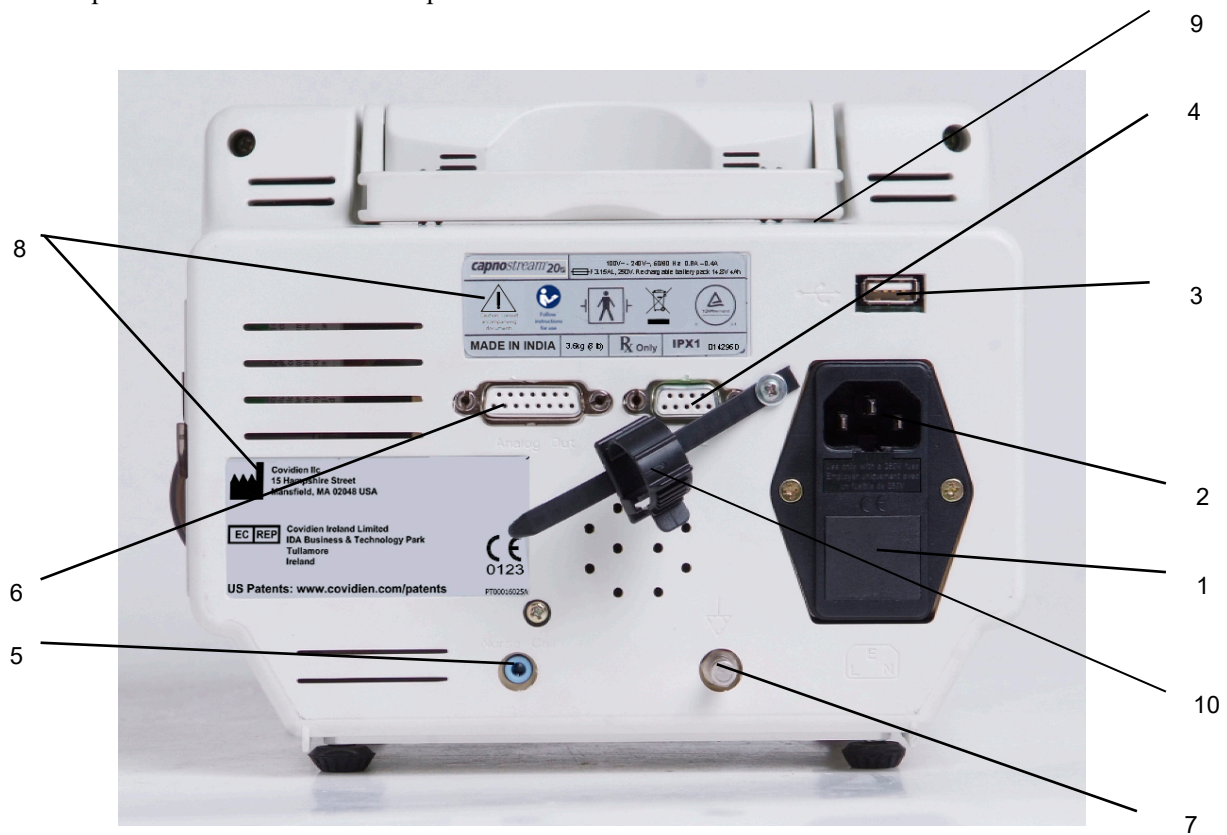

Figure 7 – Capnostream™20p Rear View
1. Plug the electrical cord into the mains plug in the rear of the monitor (see Figure 7 – Capnostream™20p Rear View on page 29). Clip the power cord strain relief around the cable and tighten to ensure that the power cord does not accidentally disconnect from the monitor.